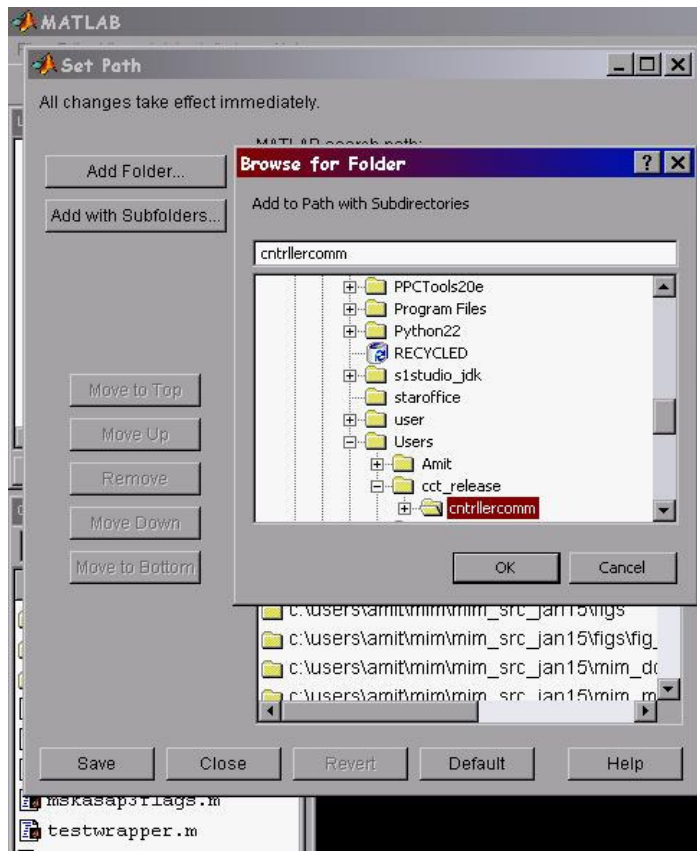

Figure 2: Path Browser
- a. Open Set Path Utility from the MATLAB® window menu toolbar (see Figure 2).